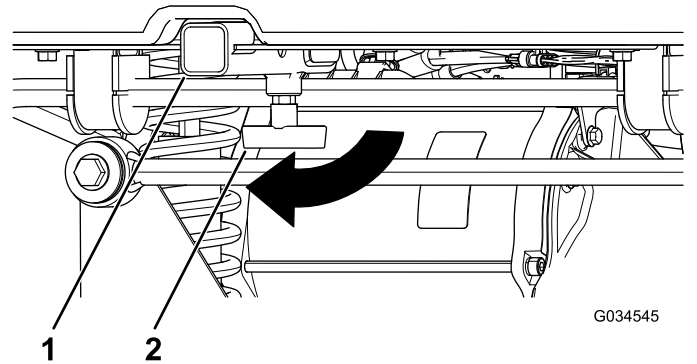

Figure 20
1. Loosen the “T” handle by rotating it clockwise (Figure 20).
2. Insert your accessory into the receiver until the holes align (Figure 20).